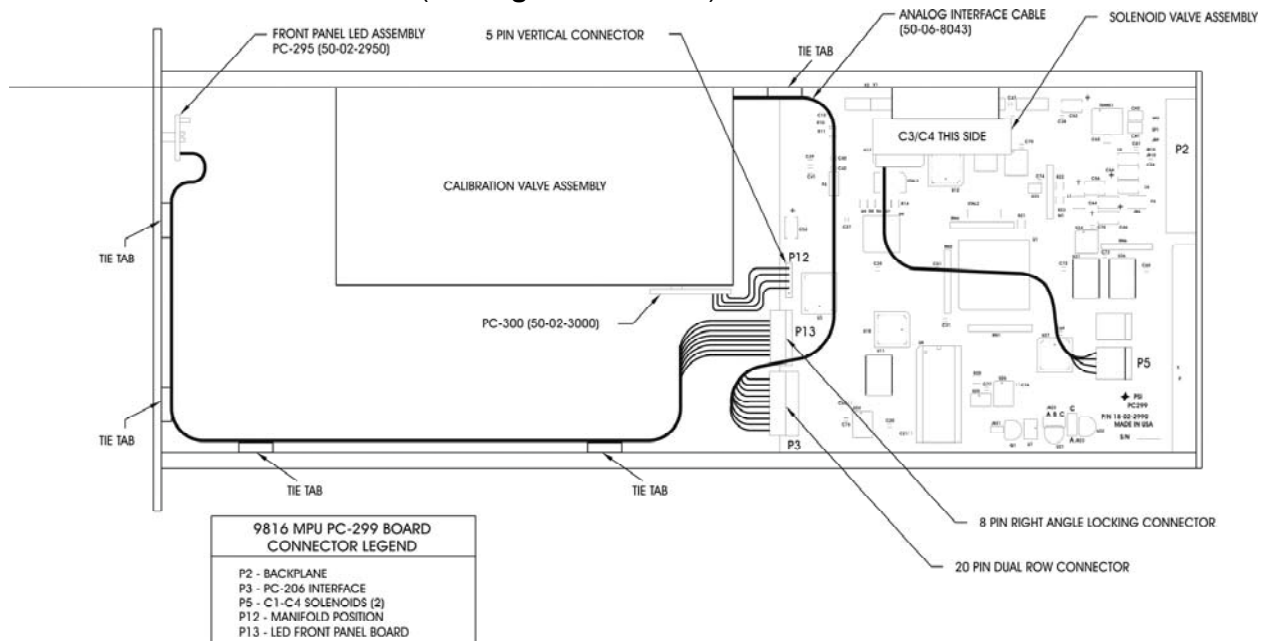

Figure 5.3
- (1) Remove the module from the **98RK-1 Scanner Interface Rack** by unscrewing the locking rod (turn counterclockwise with a 5/64" Allen-head screwdriver) and slide the entire module chassis out of the rack.
- (2) Place the scanner on a flat surface. Remove the six (6) #0 Phillips-head screws that hold each of the side covers on the scanner. Remove one or both side covers (if your maintenance requires removal of both sides). Place the scanner with its front toward you. Notice that the locking rod holes are drilled slightly off-center of the panel and that the rod extends to the side of the tubing cluster. This facilitates removal of the transducer/cal-valve housing when maintenance needs to be performed. Note, **DO NOT** completely remove the locking rod unless there is an overriding need to do so. The *small "c"* spring clamp requires a special tool for removal and the clamp itself is easily lost.
- (3) If your maintenance requires doing so, unplug the manifold position detector four-pin connector from the PC-299 board at P-12 (see **Figure 5.3** below).